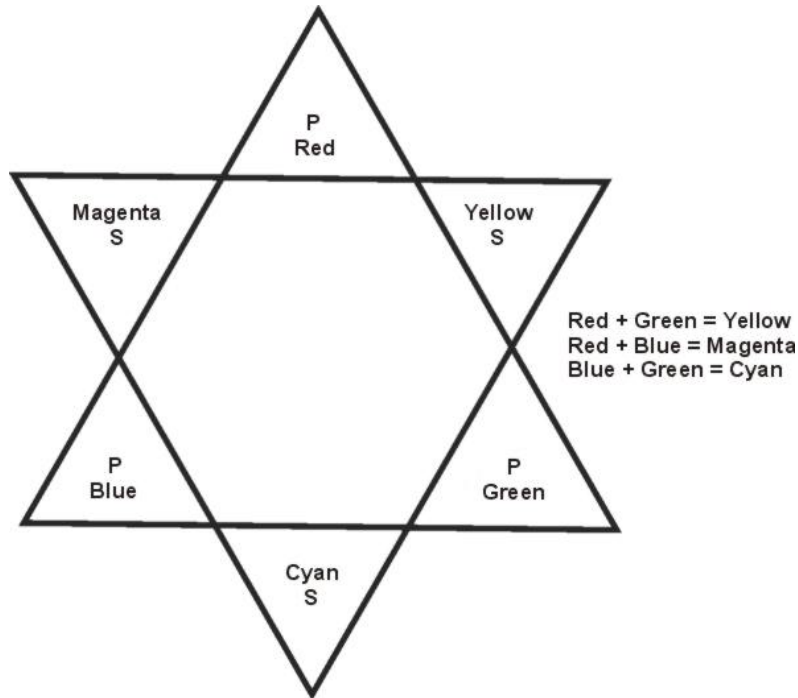

Figure J-4. Primary and Secondary Colors
a. White light is composed of three primary colors: blue, green, and red. A filter of primary color will send its own color and absorb the other two. A secondary, or subtractive color, is a mixture of two primary colors (Figure J-4). Yellow, for example, is a combination of red and green. Since a filter passes its own color and absorbs others, yellow sends red and green and absorbs blue. Magenta, on the other hand, sends red and blue and absorbs green. Cyan sends blue and green and absorbs red.